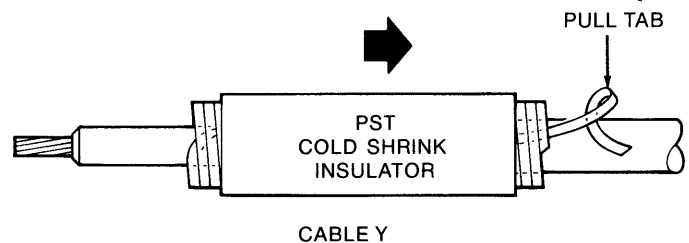

Figure 4
1. Slide **longer** PST Cold Shrink insulator onto cable "X" jacket and the shorter PST onto cable "Y" jacket directing pull tabs away from cable ends as shown in figure 4.
4. Lubricate bore of splice with silicone grease and install onto cable "X" leaving conductor exposed for connector (Figure 4).